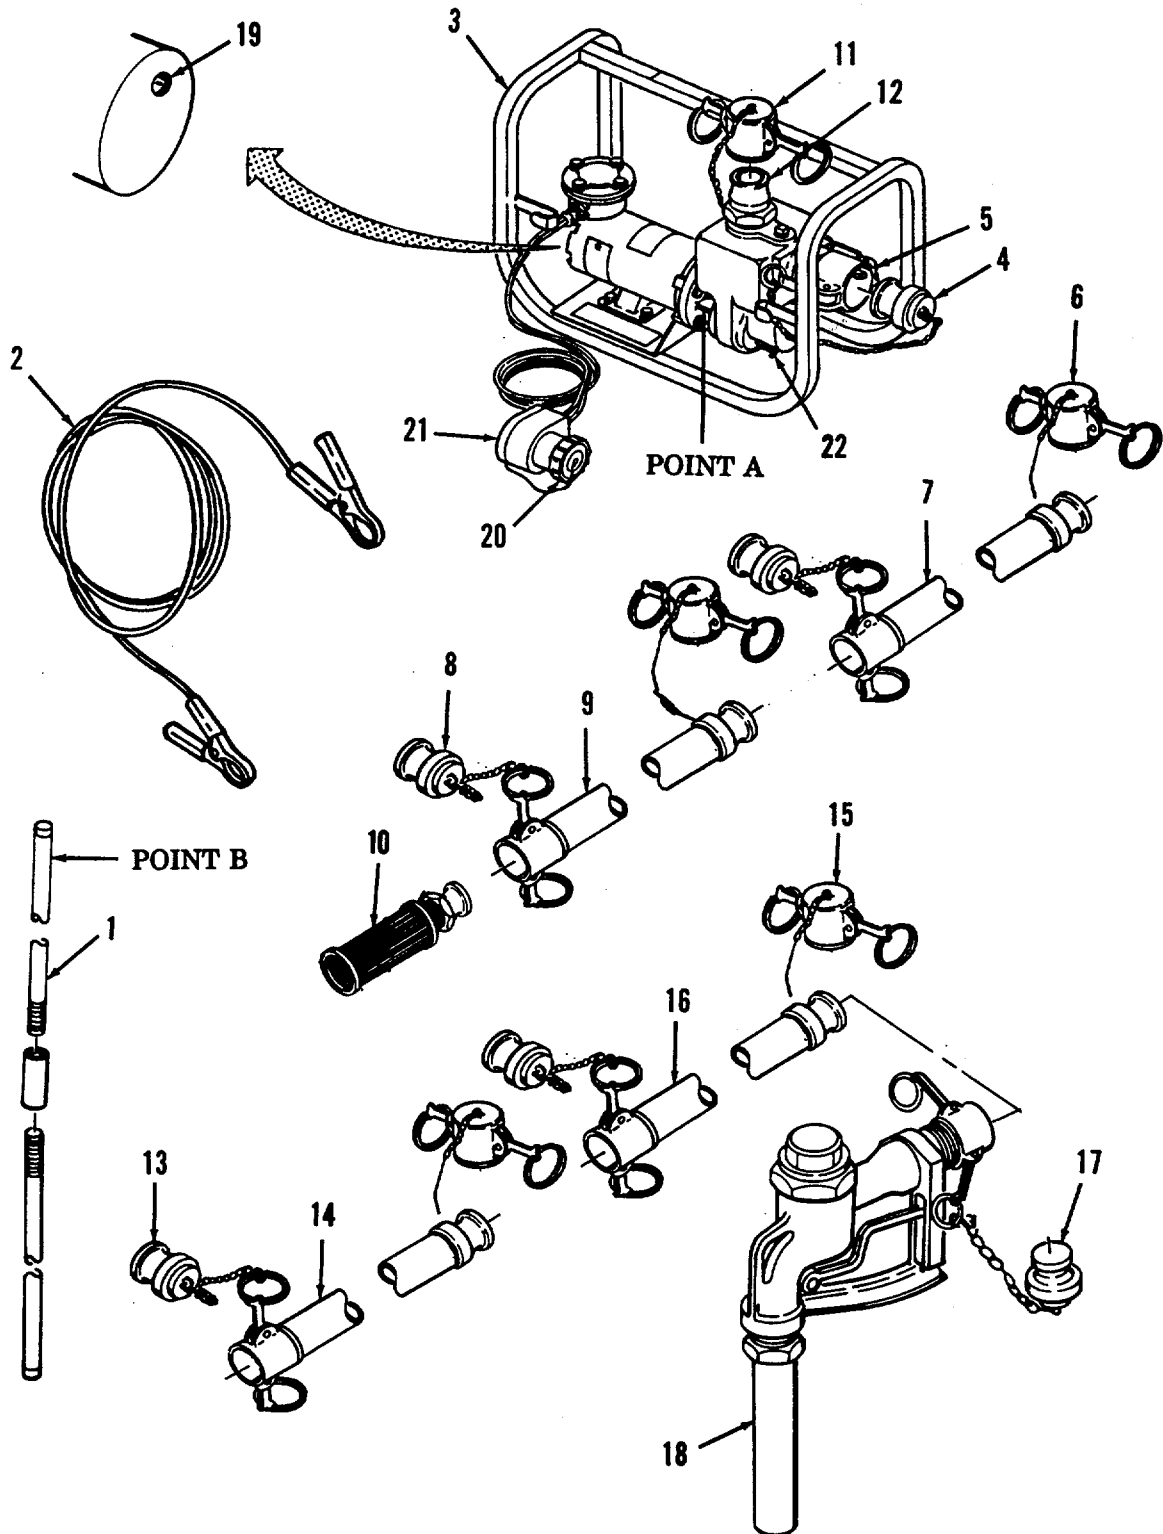

Figure 2-3. Assembly of Pump Assembly.
2.9. ASSEMBLY AND PREPARATION FOR USE. This paragraph shows how to assemble the pump assembly and prepare it for use. The steps provided and the illustrations shown are for a typical pump set up. Always be sure that you follow your local standard operating procedures (SOP) first if there is a conflict between the steps shown here and your SOP. (Refer to Figure 2-3).
2.12. PREPARATION FOR MOVEMENT. For general preparation of the pump assembly for movement, perform the following steps (Refer to Figure 2-3).
- a. Disconnect slave connector (21) from the 24 volt direct current power supply and place dust cap (20) onto slave connector.